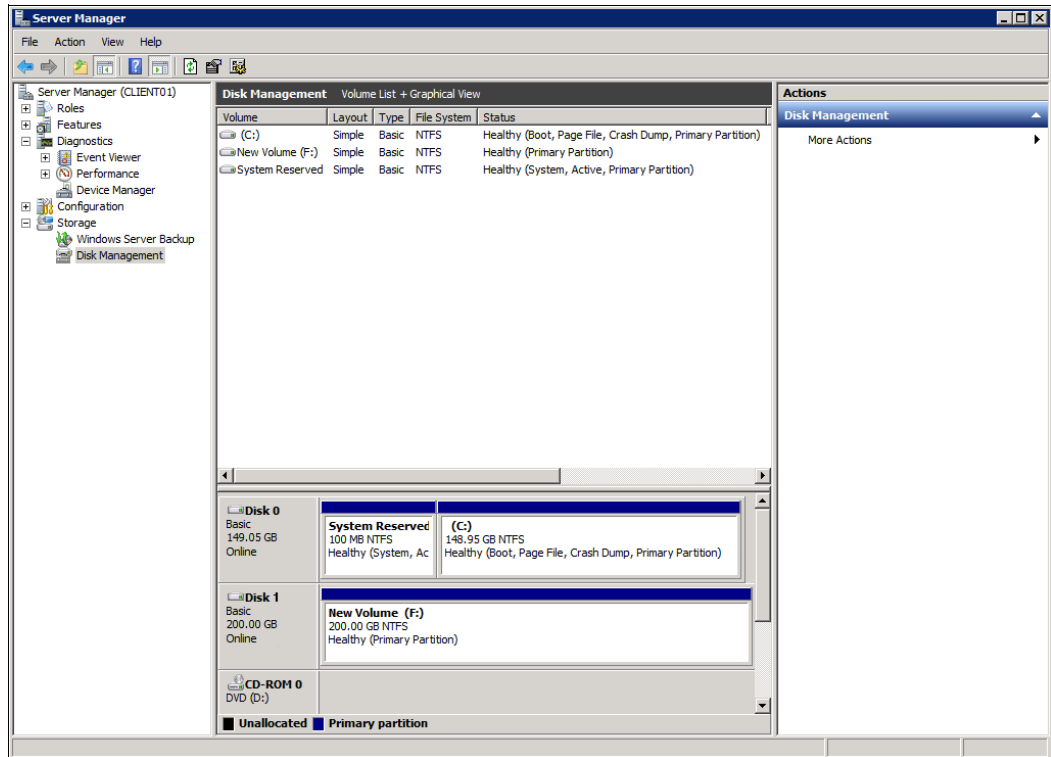

Figure 16-19 New partition on the logical drive
- Follow procedure that is presented by the wizard to define the partition size, drive letter, file system, and volume label. The partition is created and formatted. The Disk Management applet now displays the new partition (allocated drive F) that is ready to be used (see Figure 16-19).